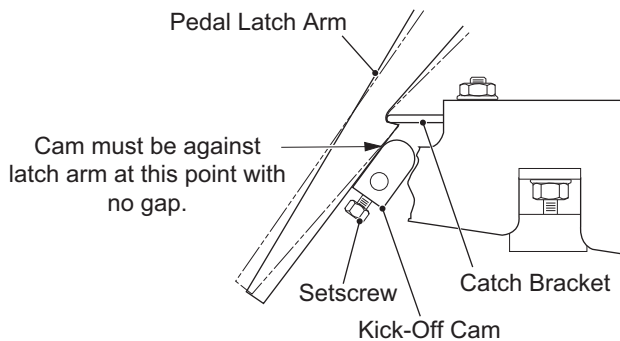

Figure 14 Kick-Off Cam Inspection
Replace if indication of wear or damage are found (Figure 14).
Look for wear and ensure correct adjustment. With the parking brake engaged and fully latched, there must be no gap between the top of the cam and the latch arm. Adjust the kick-off cam (3) if required (Figure 14). Correct setscrews must be used to hold the kick-off cam to the pivot rod. Use of longer screws prevent correct adjustment of pedal bumper (pedal travel) and may prevent the brakes from adjusting properly.